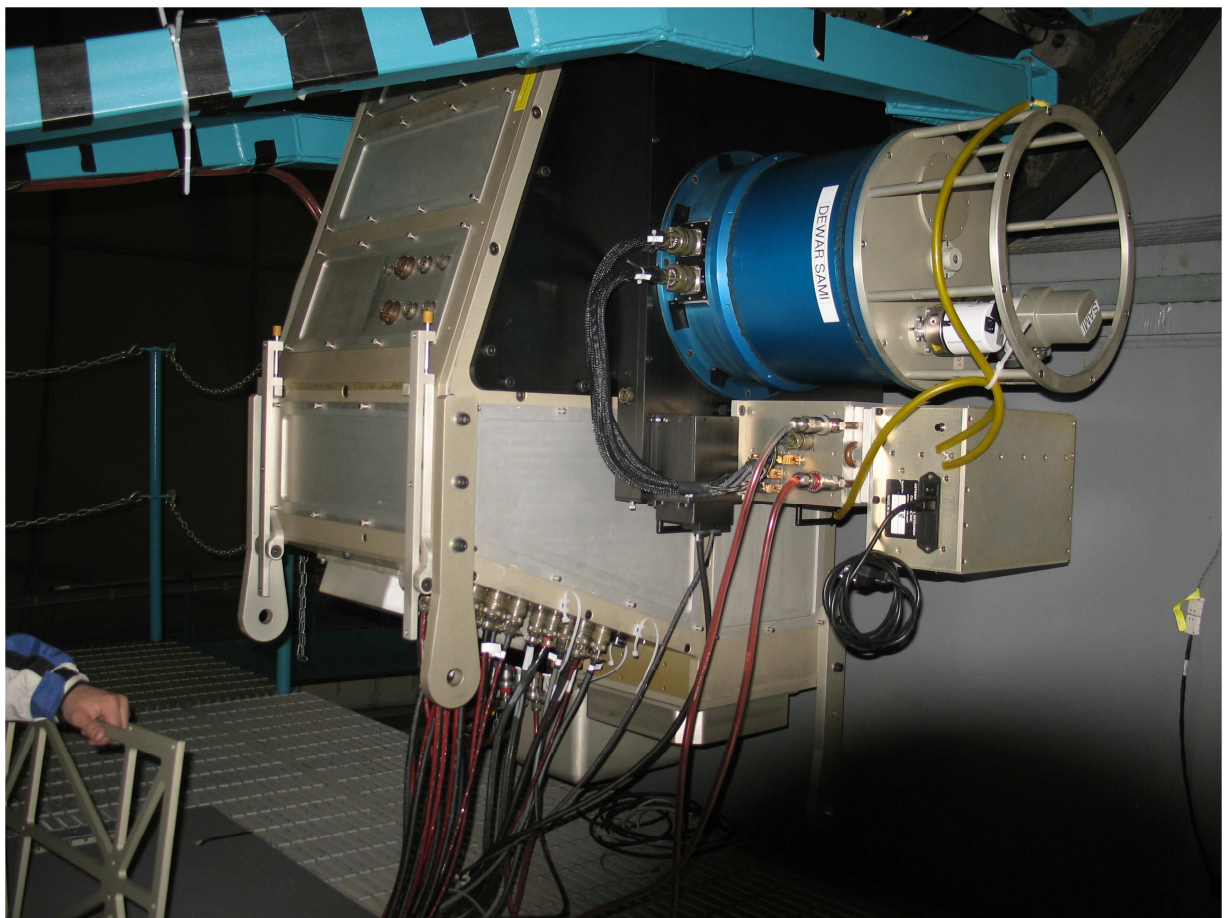

Figure 1. SAM in an accessible position
- c. The Nasmyth rotator must be rotated in a way that access to the SAM shutter is convenient, as shown in Fig. 1
1. Position the Optical Nasmyth rotator in order to have a good access to SAM, as shown in Figure 1. Check that the SAM motor control electronics are off